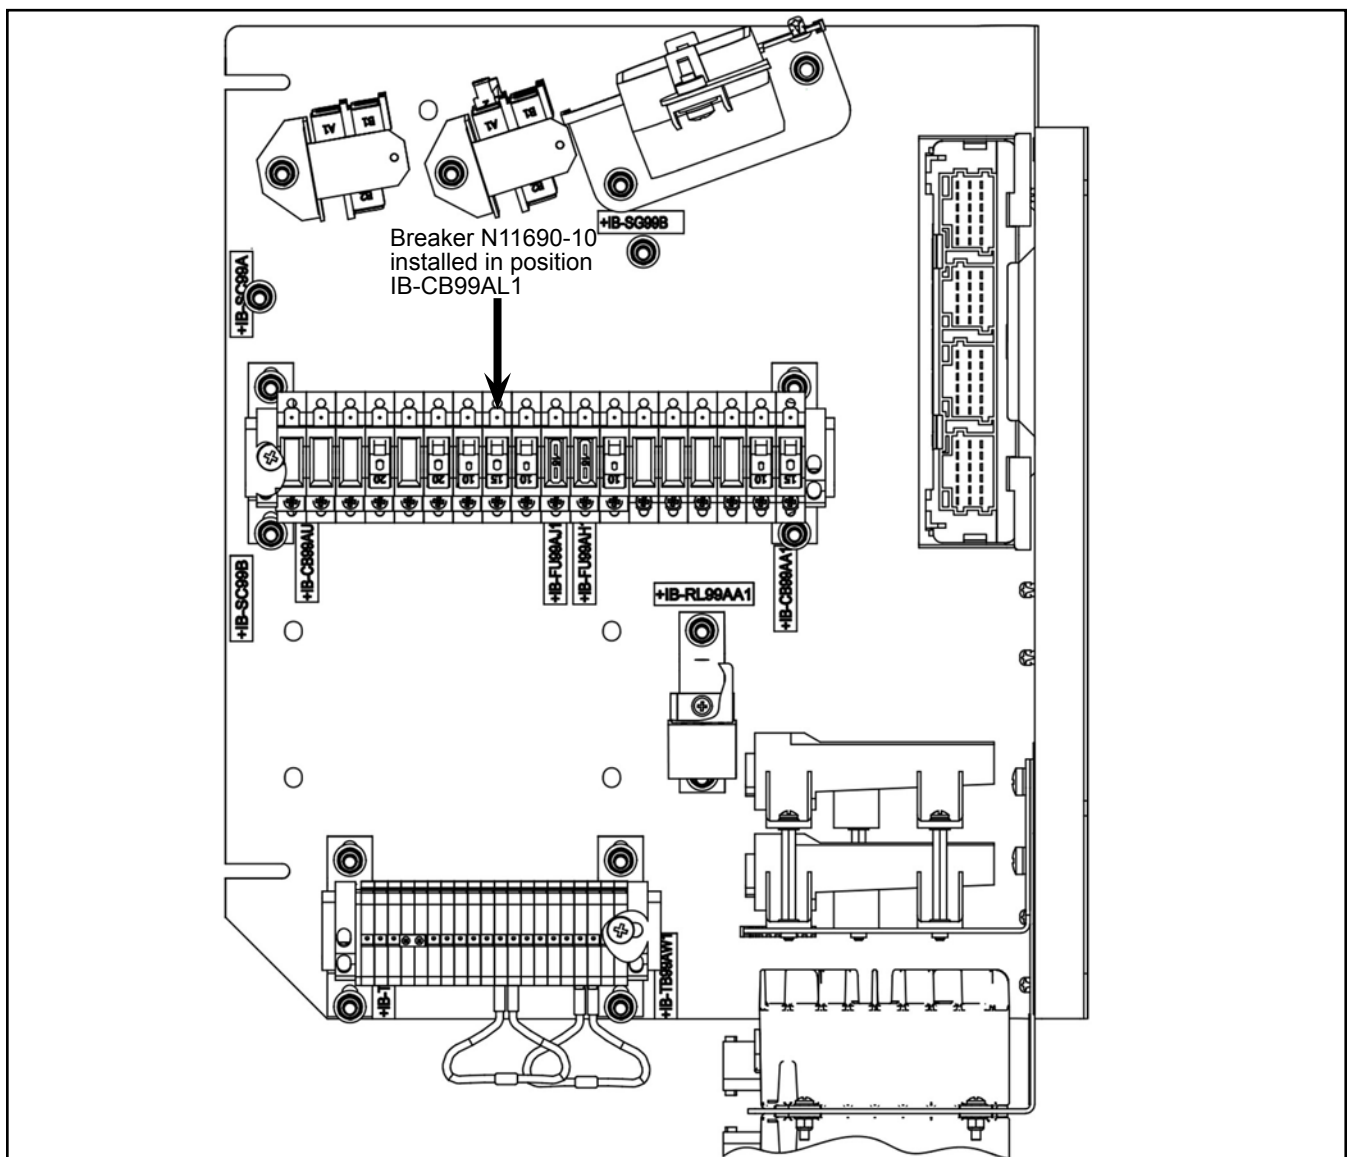

Figure 1 - Breaker N11690-10 Position in I.B. Box
- 1.3. Remove the 15 A breaker installed in position IB-CB99AL1 and replace with the breaker N11690-10 (10 A) breaker. See Figure 1.